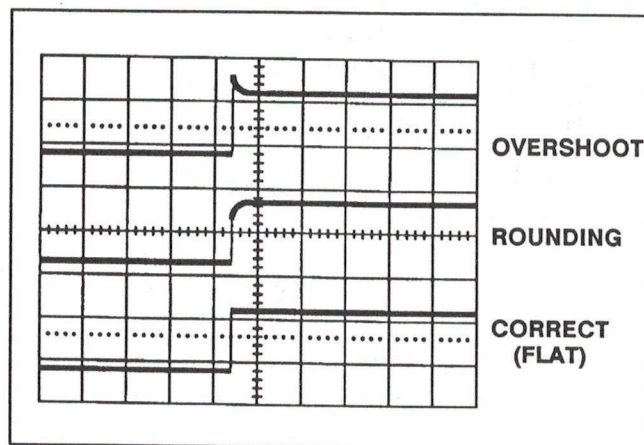

Figure 5-3. CH1 and CH2 Input Compensation.
- e. ADJUST-CH1 capacitor on hybrid U110 (the top one) for the best flat corner on the displayed Channel 1 waveform (see Figure 5-3).